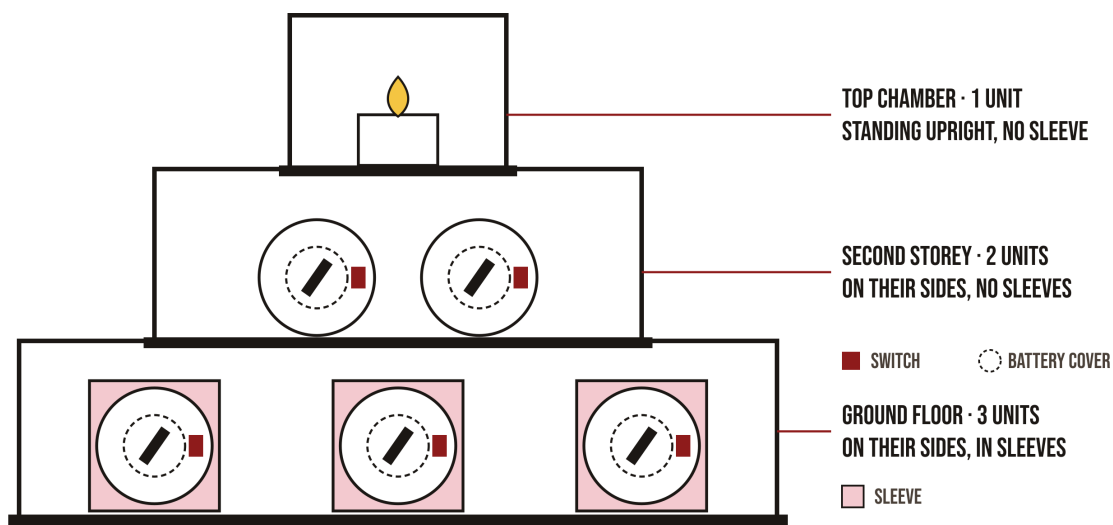

Fig. 4: The castle seen from the back, showing the six flame units in their stations.
Your castle is illuminated by **six battery-operated flame units**, arranged over three storeys as shown in Fig. 4. Each unit is a small cylinder with an opaque base, which houses the battery and switch, and a flickering flame at its top. At the castle's scale it is a little under 26 feet across, which makes it, strictly speaking, the largest thing in the building.
2. **Ground floor:** lay each of the three sleeved units on a flat side of its sleeve, **flame toward the façade**, so that the switch and battery cover face you through the open back. Space them evenly across the chamber, as in Fig. 4.